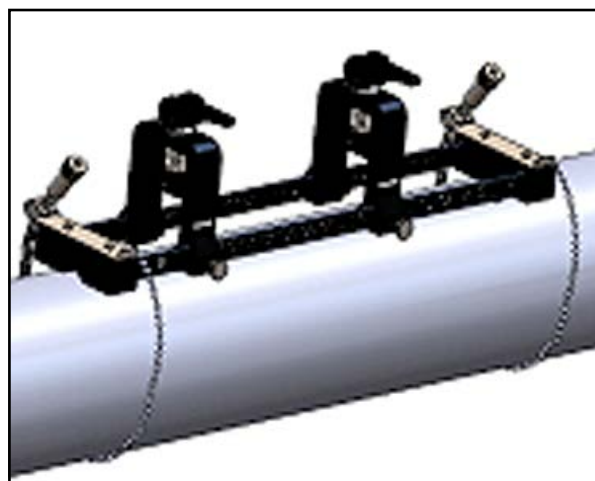

Figure 14: Fixture With Chains Installed
7. Repeat the previous steps to install the chain at the opposite end of the clamp-on fixture (see *Figure 14*). The clamp-on fixture should be firmly mounted to the pipe, but it should still be loose enough to allow final alignment.